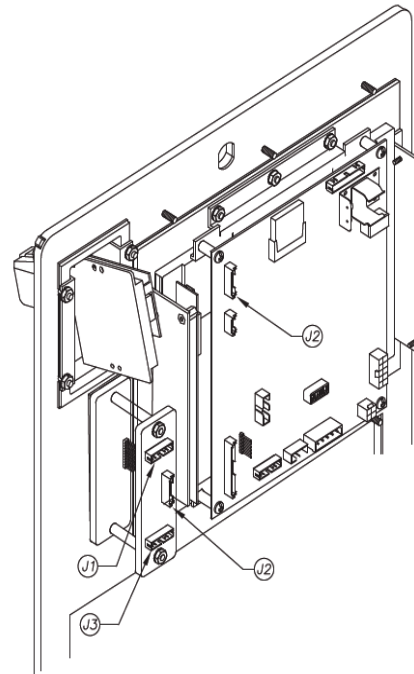

Figure 2-3 Cable Routing
1. To begin, remove the two (2) 8-32 KEP nuts that are securing the main function keyboard. Screw two (2) standoffs (8-32 x 1.5") on the studs to secure the main function keyboard. Next, attach the Dual-Reader Interface board to the standoffs using the previously removed nuts.
2. Connect the card reader cables, as illustrated in Figure 2-3. First, disconnect the existing main card reader cable from the FIT500 control board (connector J2) and plug it into the Dual-Reader Interface board (connector J1). Then, connect the Dual Reader Interface board cable from the FIT500 control board (connector J2) to the Dual-Reader Interface board (connector J2).